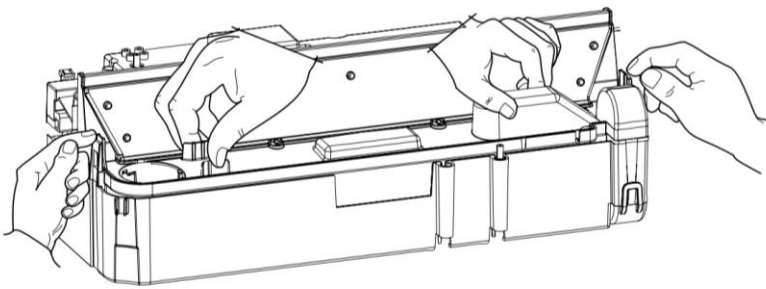

Fig 28
1. There are two orange clips holding down the nozzle on the sump; one on the left and one on the right side of the nozzle. On the left side, press in the clip with one hand and with the other lift the nozzle out of the clip. Repeat this for the right side (Fig 28).